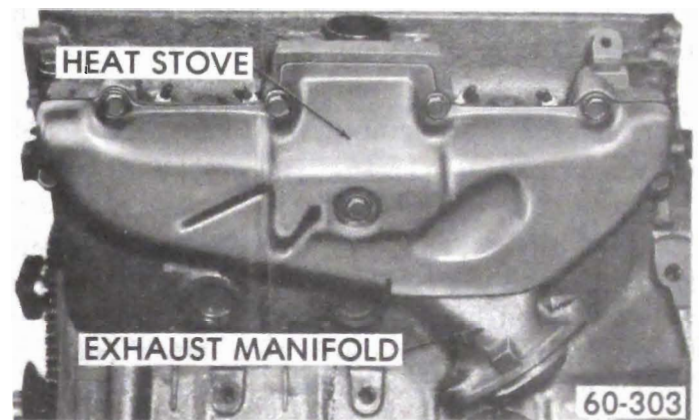

Figure 60-18 - Exhaust Manifold Installation (350 Left Side Shown)
6. Assemble exhaust manifolds to heads. See Figure 60-18. Torque bolts to 18 lb. ft.